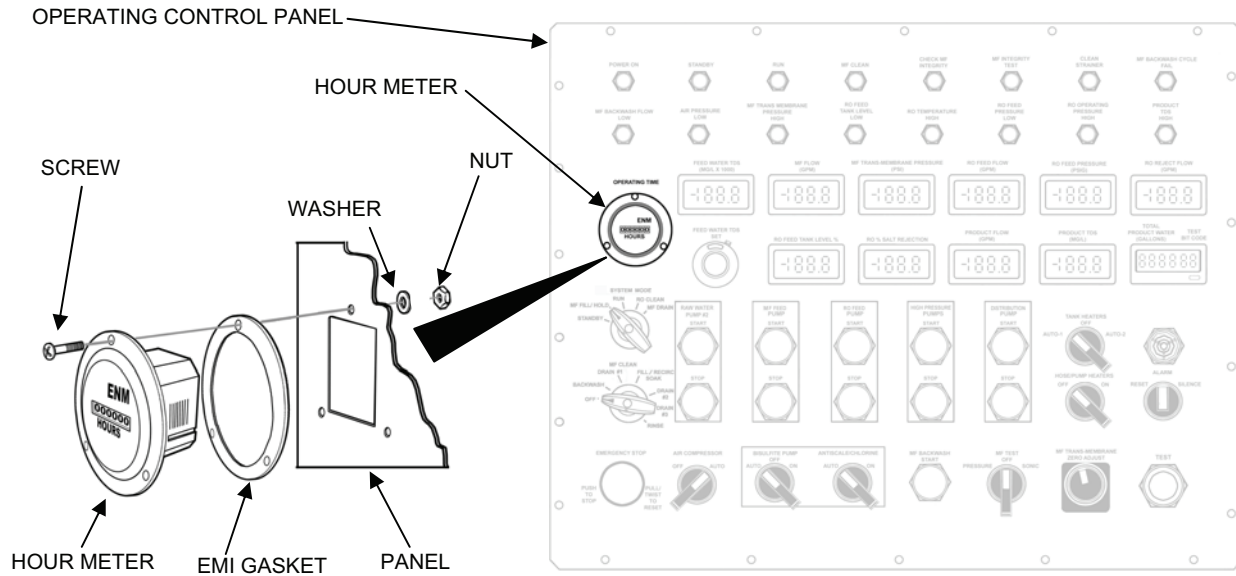

Figure 5. Hour Meter Assembly Replacement .
1. Remove the hour meter as follows (see Figure 5):